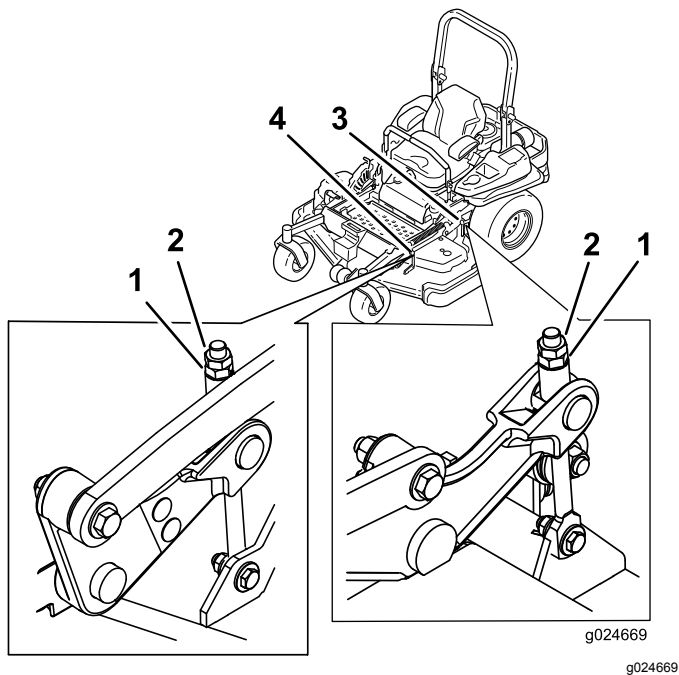

Figure 86
- 9. Fine-tune the adjustment nut on the front deck-lift assembly by turning it (see Figure 86).
14. Fine-tune the screw adjuster by turning it to get 8.3 mm (3-1/4 inches) height (Figure 86).